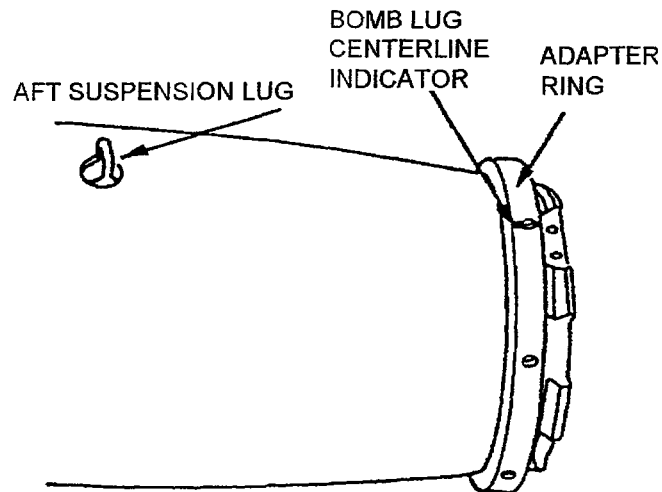

Figure 4-11C. Bomb Fin Adapter ADU-320A/B Installation
- c. Align adapter "BOMB LUG CENTERLINE" indicator with aft suspension lug (Figure 4-11C) and engage index pin on adapter with index pin hole on bomb; then position adapter against bomb.